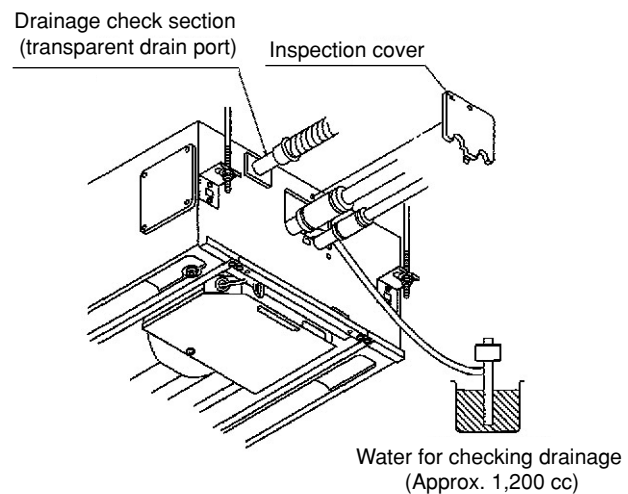

Fig. 3-47
- (4) When the check of drainage is complete, open the check pin (CHK) and remount the tube cover. (Fig. 3-47)
To mount the tube cover, use 4 × 8 tapping screws. (Fig. 3-47)